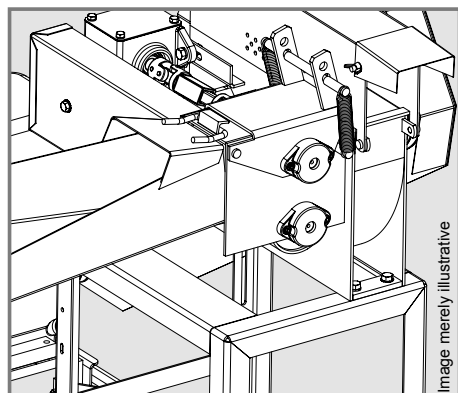

Figure 10
- ✓ After attaching the green hopper to the holder, move the hopper downwards to fully close the infeed rollers' inlet (fig. 10).